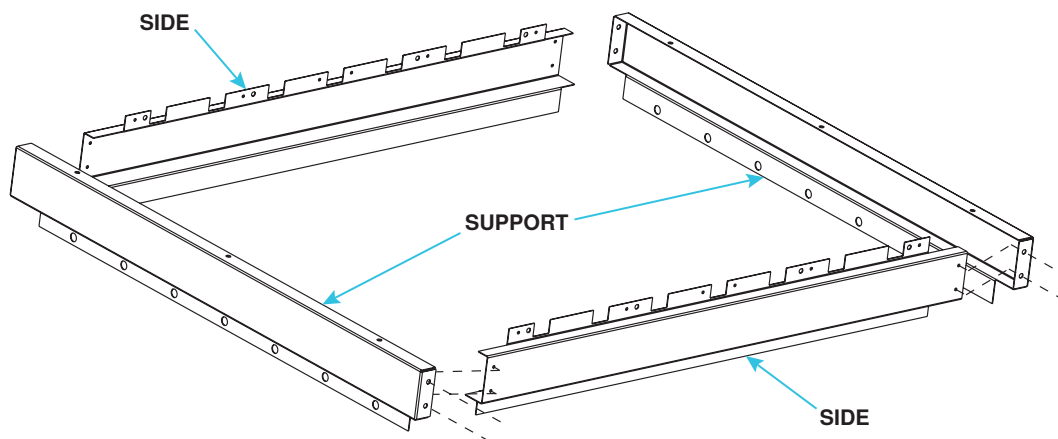

Figure 4. Louver Frame
- a. Assemble louver frame (see **Figure 4**). Secure both sides to both supports using 3/8-inch screws.